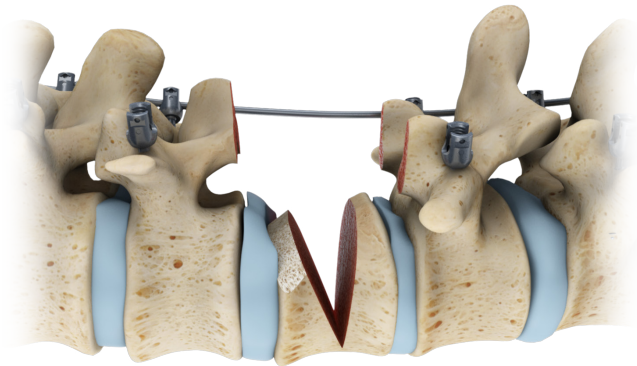

Fig. 12
**NOTE:** Care should be taken to confirm the dura and nerve roots are not compressed. (Figs. 12, 13)